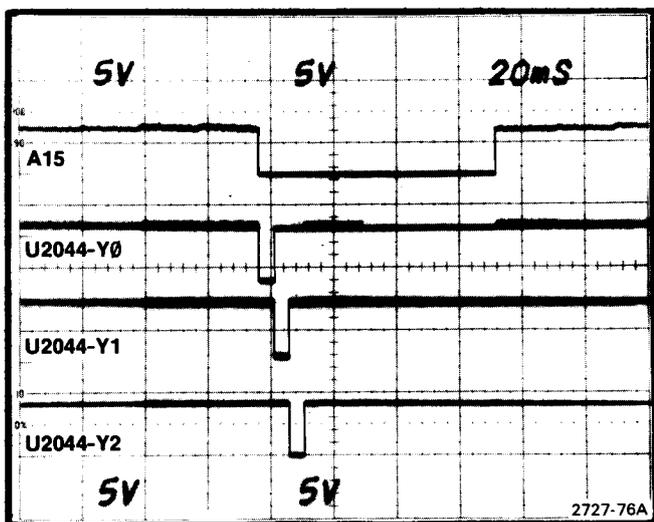

Fig. 4-20. A15 and Y0 through Y2 of address decoder U2044.
**Processor Address Decoders.** Address decoder U2044 on the Processor board sets its outputs low in turn to access block of memory space. See Fig. 4-20, where the Y0 through Y2 outputs are compared to A15. The other outputs follow in sequence with similar pulse widths. The self-test indicators connected to the decoder outputs blink in sequence as the microcomputer cycles through its address space.